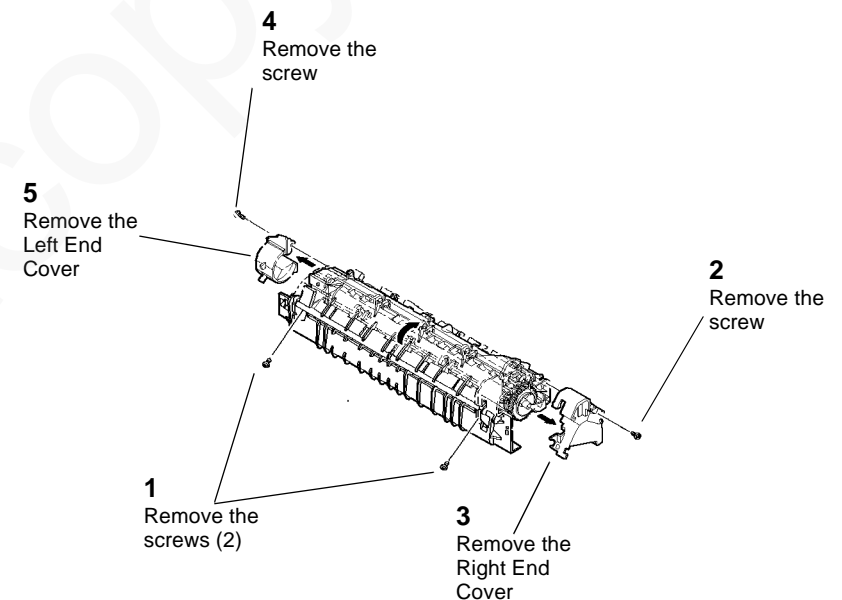

Figure 1 Removing the End Covers
5. (Figure 1): Remove the End Covers and open the assembly.